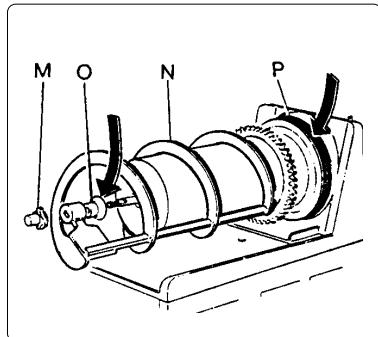

Fig. 16
- f) Reassemble the mixing unit, following these steps (see fig. 16):
- it is necessary that petroleum jelly be spread on the washer (O) to facilitate movement and seal;
- fit the washer (P) back into position;
- block all the components into place by turning the knob (M) in a counterclockwise direction.